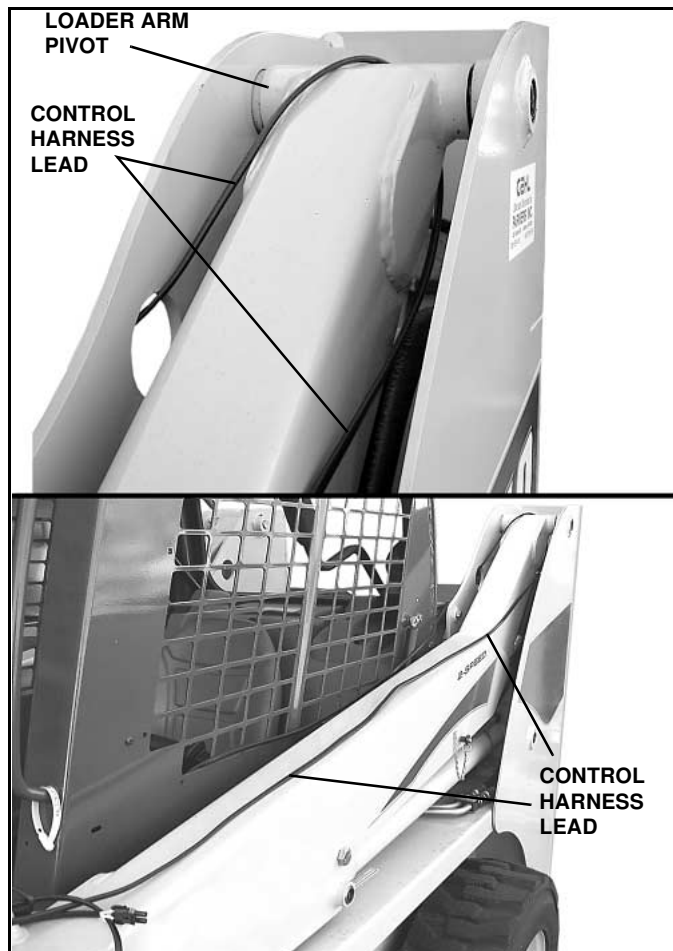

Figure 2-14
3. Route the control harness lead around the pivot point on the loader arms on the back of the Skid Steer and down the top of the loader arms to the front. Allow enough slack when routing wire so that wiring is not put in tension when the loader arms are moved. Position the wiring to prevent pinching when loader arms pivot, and secure with cable ties. (See Figure 2-14).